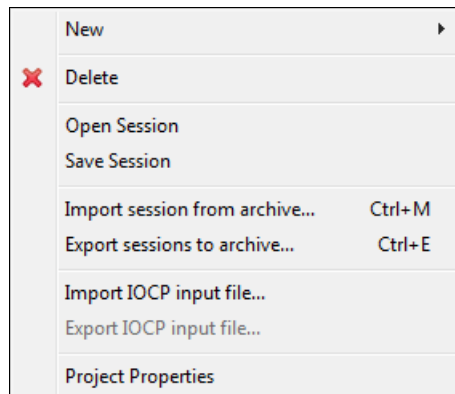

Figure 5-67 CMT - Importing the IOCP file
1. Right-click in the Projects pane and select **Import IOCP input file** (Figure 5-67).